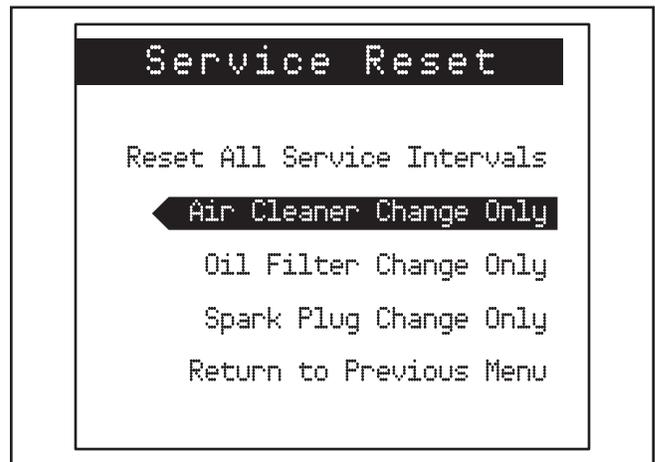

Figure 9: Service Reset
3. Choose which service(s) you would like to put back to full interval (see Figure 9) and select.